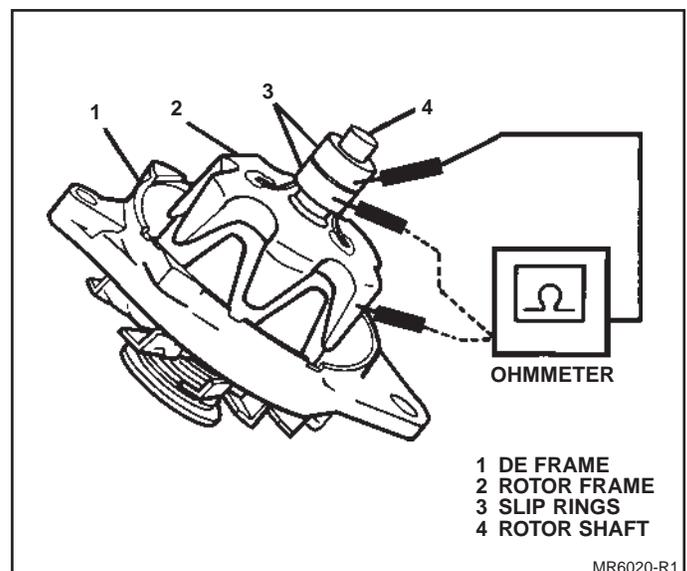

Figure 21. Electrical Check of Rotor
15. Use ohmmeter to check rotor field resistance. Place ohmmeter leads on the two slip rings on the rotor shaft to make this check (Fig. 21). Refer to Service Specifications at the end of this section for proper value. Also use ohmmeter to check for a grounded field by touching one lead to a slip ring and one lead to rotor frame or shaft. Reading should be infinite (open) to show that field is not grounded. If field resistance is outside specifications or if field is grounded, replace rotor as described in following steps.